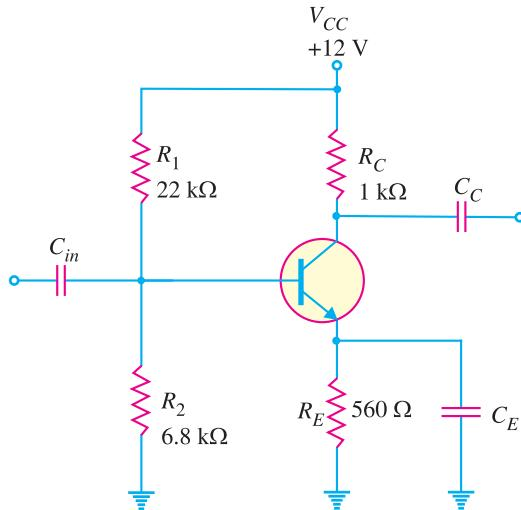

Fig. 10.4
**Example 10.2.** Select a suitable value for the emitter bypass capacitor in Fig. 10.4 if the amplifier is to operate over a frequency range from  $2\text{ kHz}$  to  $10\text{ kHz}$ .